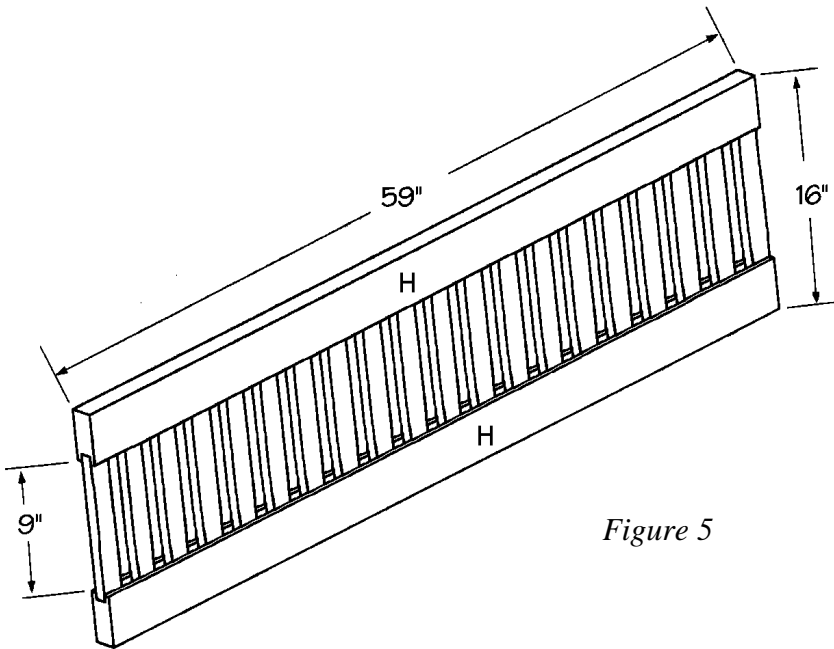

Figure 5
3. Cut 20 back slats (I) from 1 x 2 pine, each measuring 10 inches.
4. Working on a level surface, place the horizontal backs (H) parallel to each other, with the dados to the inside, as shown in *Figure 5*. Fit the ends of the 20 back slats (I) into the dados in each of the two horizontal backs (H). The spacing between the slats should be approximately 1-1/2". In fact, we used an extra slat as a spacer. When the back slats (I) are properly fitted into the dados, the distance between the two horizontal backs (H) should be 9 inches. The two outer back slats (I) should be even with the ends of the horizontal backs (H). When the position is perfect, the overall measurements of the back assembly should be 16" high and 59" wide. Secure the slats by nailing through the dadoed edge of the horizontal back (H) into the ends of the back slats (I), using two 1-1/4" nails on each joint.